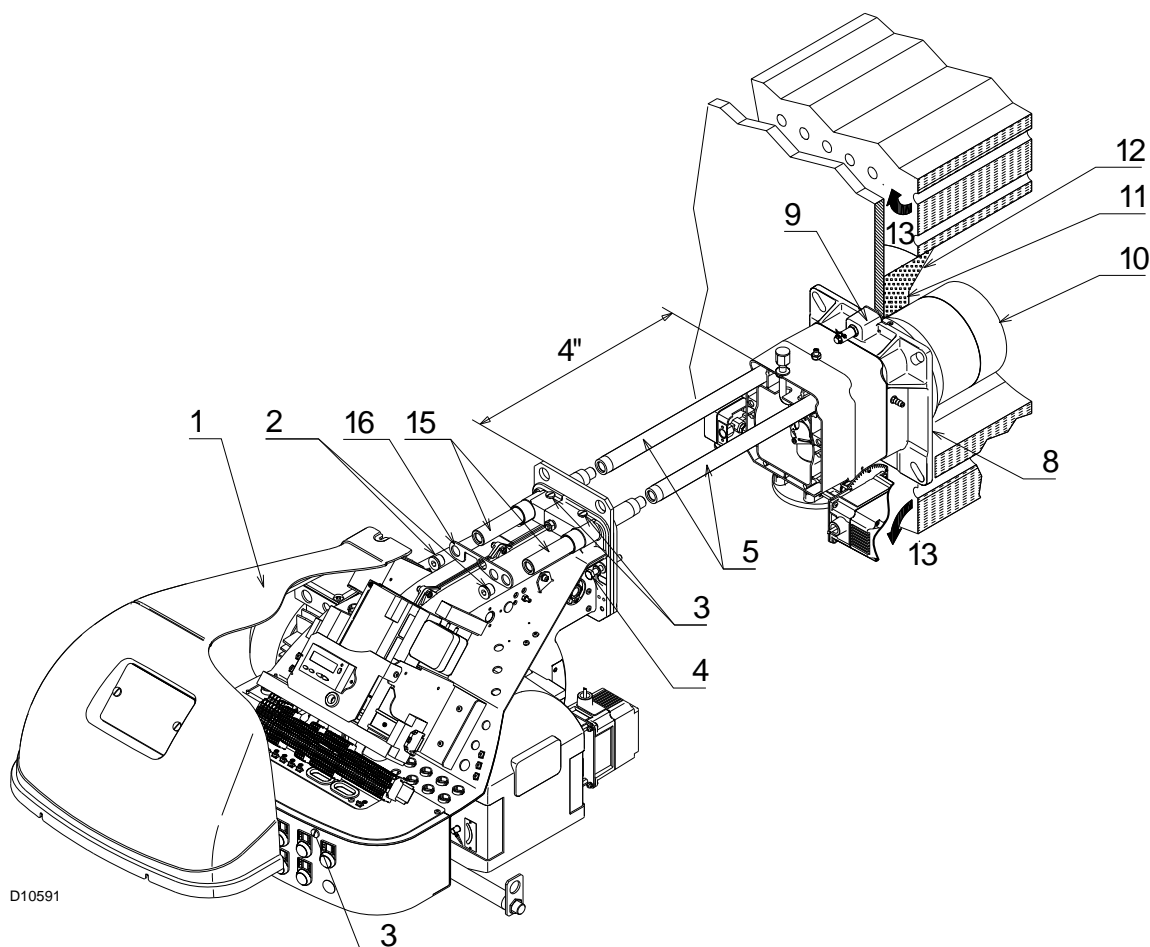

Fig. 11
- For boilers with front flue passes 13)(Fig. 11) or flame inversion chambers, a protection in refractory material 11) must be inserted between the boiler refractory 12) and the blast tube 10).
- For boilers with a water-cooled frontal, a refractory lining is not necessary 11)-12)(Fig. 11) unless expressly requested by the boiler manufacturer.
Secure the burner to the boiler, fixing the flange 9)(Fig. 11) to the boiler plate and interposing the insulating gasket 8).
Detach the combustion head from the burner, (Fig. 11):
- install the extension bars 15)(Fig. 11, page 18) and re-screw the screws 2) including the safety plate 16);